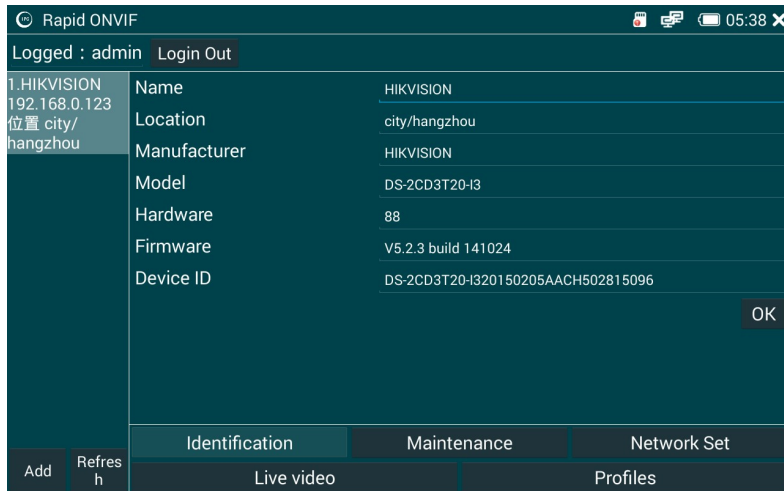

Figure 19
- 1) check the device information , click the Device Info button , you can view the camera information , as shown in Figure 19 :
Click the Network Tools icon to enter the Network Tools interface , as shown in Figure 19 :